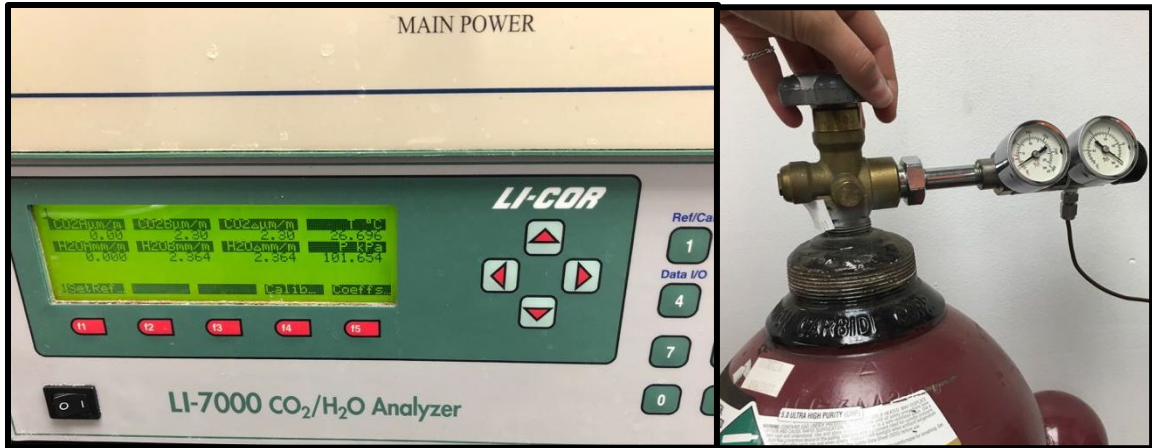

Figure 4. The photo on the left is a picture of the Licor screen active and ready. The photo on the right is the nitrogen on and at ~15(psi).
4. Now turn on the Nitrogen tank to (~15 psi) (Figure 4).